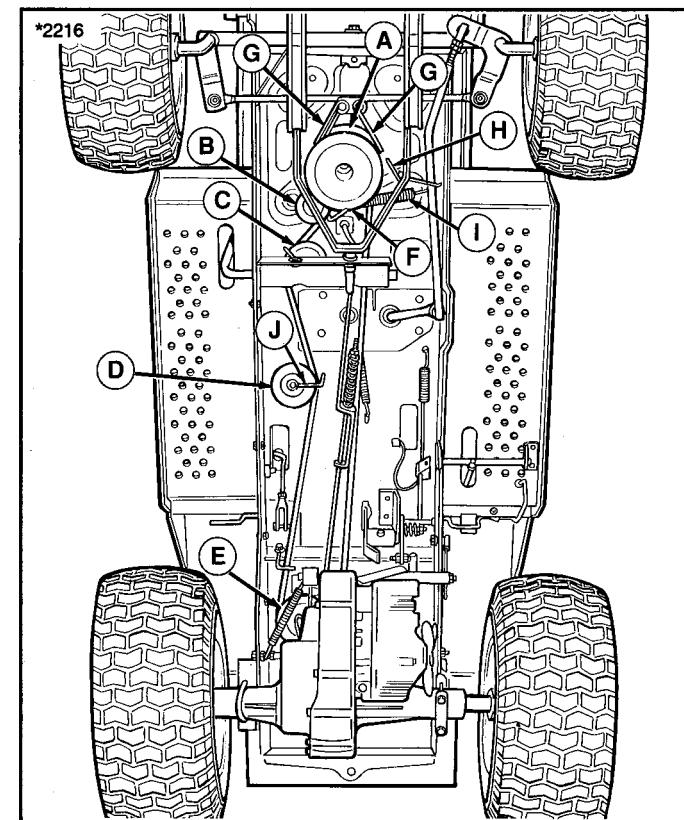
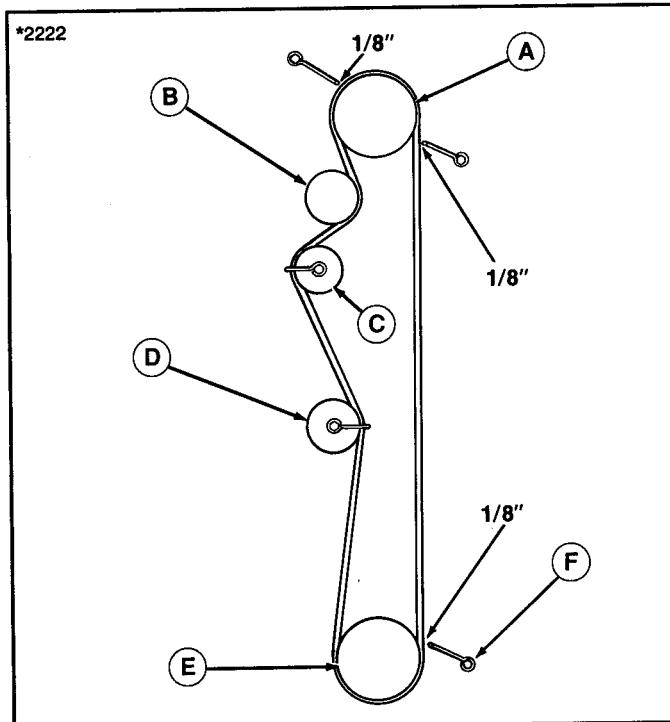
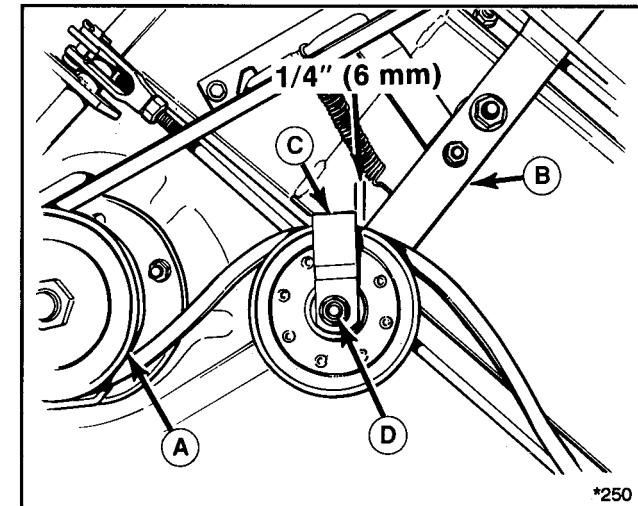

Figure 28. Hydro Tractor (seen from underneath).
Figure 29. Belt Diagram
Figure 33. Mower Belt Replacement
2. With the clutch disengaged, remove the idler pulley spring (I).
3. Loosen the PTO pulley belt stops (G, figure 28).
4. Remove the tractor belt from the engine pulley (A) and allow to rest on top of the PTO pulley.
5. Loosen the belt stop on the idler pulley (B) and remove the belt.
6. Loosen the capscrew securing belt stop (J) and remove belt from idler pulley (D).
7. Loosen the belt stop (F, figure 29) and remove the belt from the transmission pulley (E).
8. Remove the belt from PTO pulley (F) and tractor.
9. Install the new belt by reversing the procedure. Be sure the V side of the belt is against all the pulleys except the flat idler pulleys (B and D, figure 28 and 29). The belt diagram is shown in figure 29.
10. Reinstall belt over idler pulley belt stop (J) and tighten capscrew. Make sure pulley can rotate freely after installation.
12. Perform "Tractor Brake Adjustment" and all belt stop adjustments. Make sure belt stop (F, figure 29) is positioned 1/8" from transmission pulley (in the forward position).
2. Loosen the belt guide (C, figure 33) on the idler pulley.
3. Move idler arm (B) toward rear of mower deck to release blade brakes.
5. Install the new belt on the pulleys as shown in figure 29.
7. Reposition the belt guide on the idler pulley (figure 33). Before tightening the nut (D), position the belt guide so it is $1/4$ inch (6 mm) behind the idler arm (B) when viewed from above (figure 33). Hold the belt guide when tightening nut.